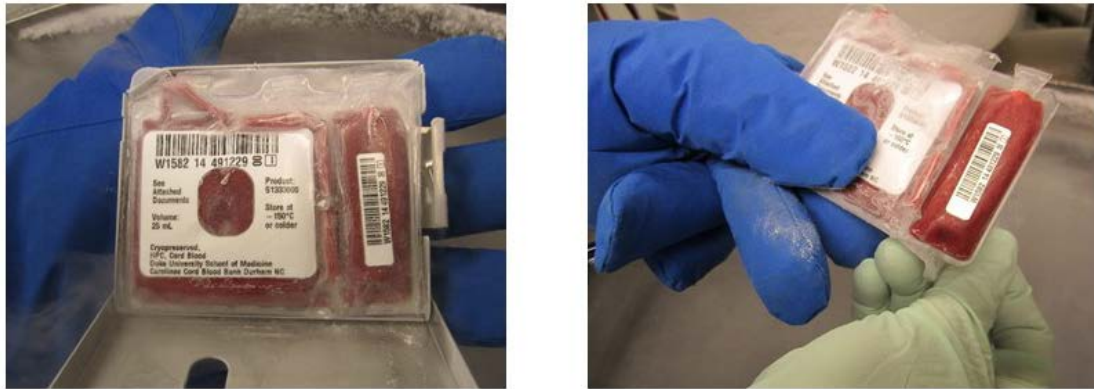

Figure 5a
- d. Remove overwrap plastic sealant (see Figure 5a).